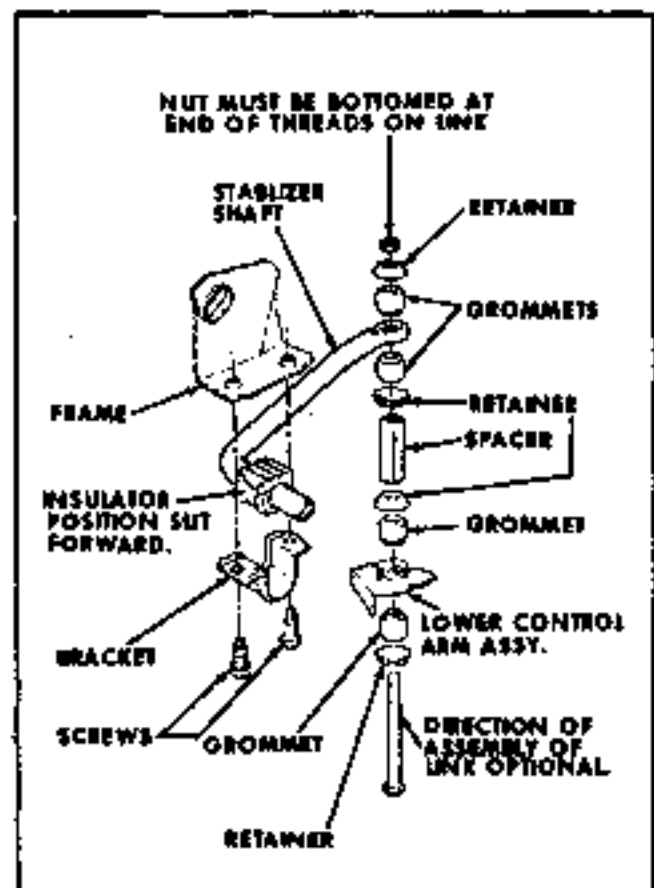

Fig. 3-8 Stabilizer Link Installation - Except Firebird
2. Disconnect both links from stabilizer shaft by removing each link nut and rotating shaft up from lower control arm (Fig. 3-8).
3. Install link assembly as shown in Fig. 3-8. Tighten nut 15 lb. ft. torque on all models except Firebird. Torque nut to 8 lb. ft. on Firebird models.